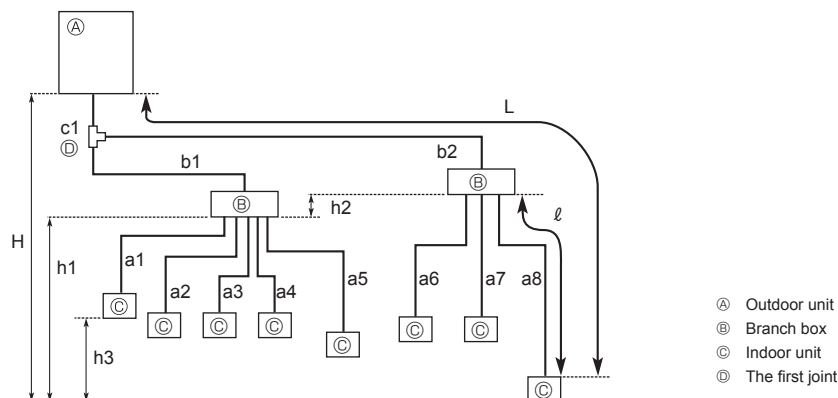

Fig. 4-2
4.2.2. Connection with Branch Box (Fig. 4-2)